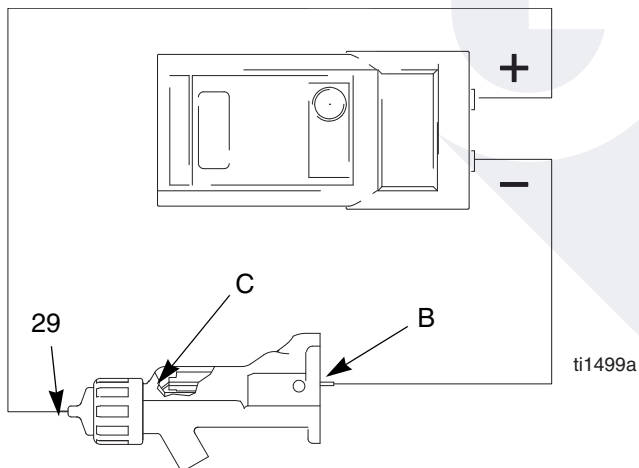

Fig. 8. Test Electrode Resistance
1. Insert a conductive rod (B) into the gun barrel (removed for the power supply test) and against the metal contact (C) in the front of the barrel.
2. Measure the resistance between the conductive rod (B) and the electrode (29). The resistance should be 20-30 megohms. See FIG. 8.